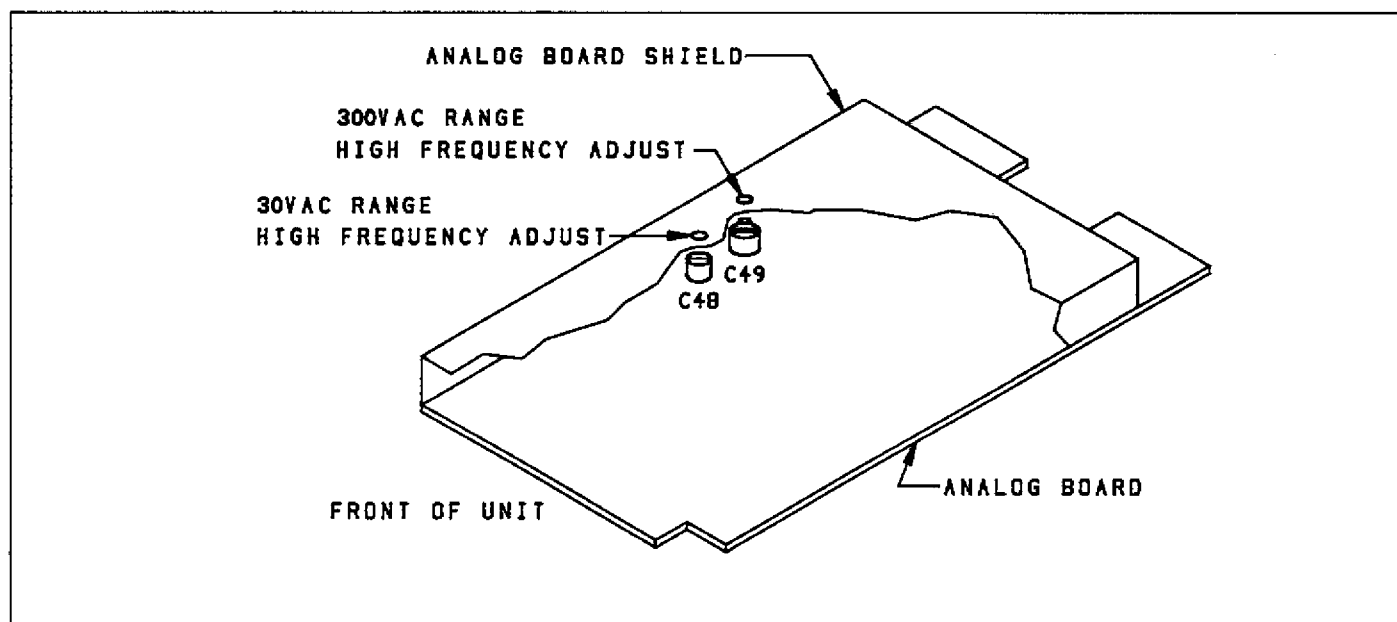

Figure 6-7. TRMS AC Volts High Frequency Calibration Adjustments (30V & 300V Ranges)
- After allowing sufficient time for the measurement to settle, use an insulated alignment tool to adjust C49 (see Figure 6-7) for a display reading of 100.000V $\pm$ 250 counts.